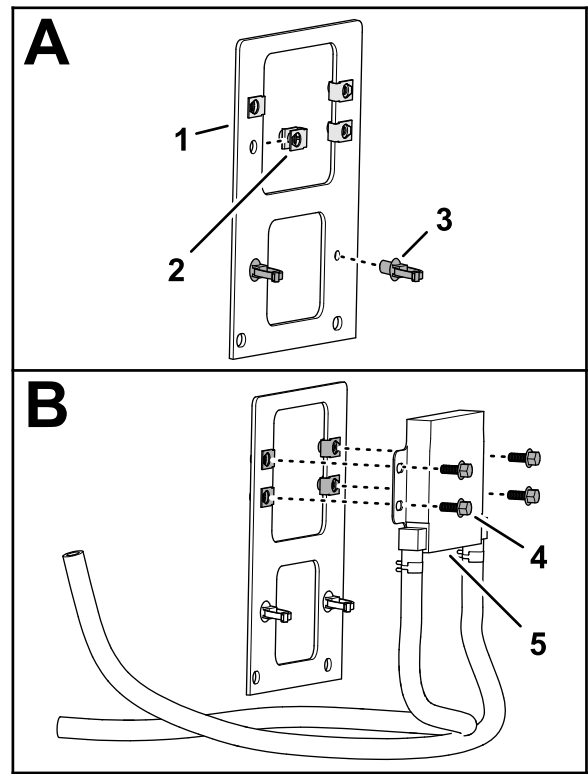

Figure 5
2. Assemble the 4 clip nuts to the holes 9.5 mm (3/8 inch) in the fuel cooler bracket (Figure 5).
3. Assemble the 2 push-in cable tie/anchors into the 2 holes 6.4 mm (1/4 inch) in the fuel-cooler bracket (Figure 5).
4. Secure the fuel cooler to the fuel-cooler bracket (Figure 5) with the 4 flange capscrews (1/4 x 5/8 inch).